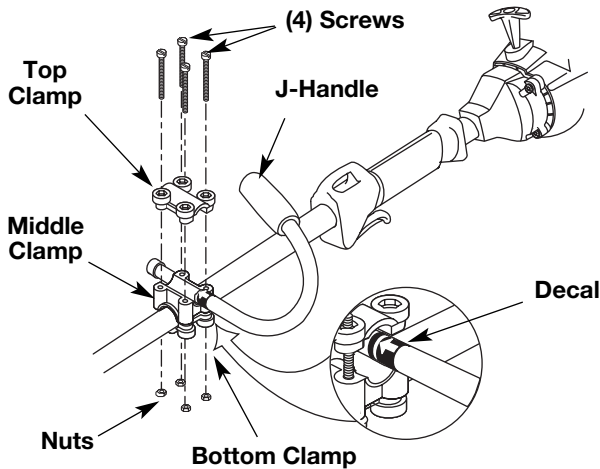
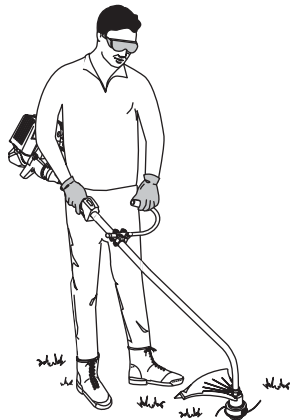

Figure 1
Figure 2
1. Place the J-handle between the top and middle clamp pieces. See Figure 1.
5. Slide the J-handle in or out until the arrow/white line on the decal touches the clamp assembly (Fig. 1). You must first loosen the screws if the handle is pre-installed. See Figure 2.
6. While holding the unit in the operating position, position the J-handle to the location that provides you the best grip. See Figure 2.